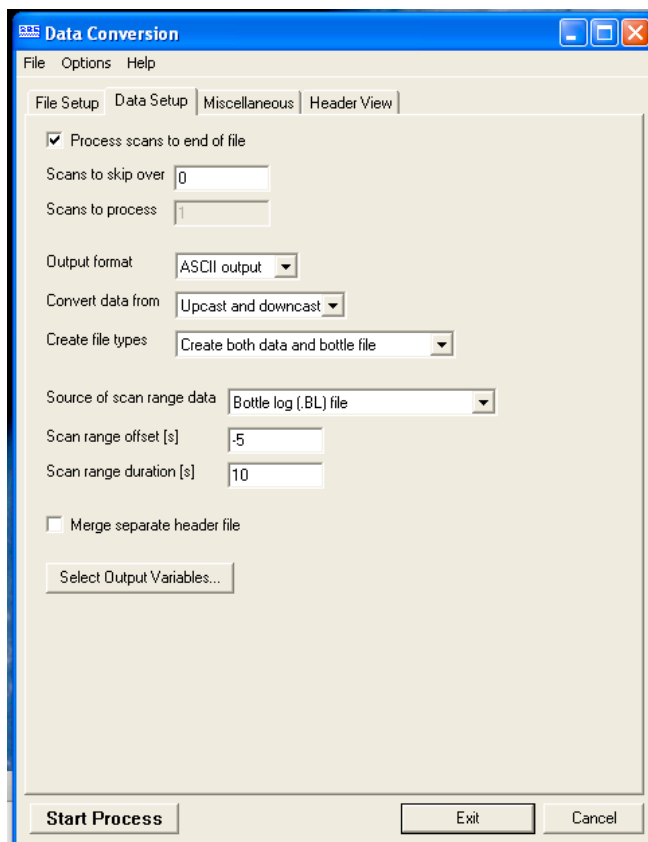

Figure 4: Example of Data Conversion> Data Setup screen.
**Data Setup tab:** Refer to Figure 4 for correct inputs.
Modifications to Figure 4: